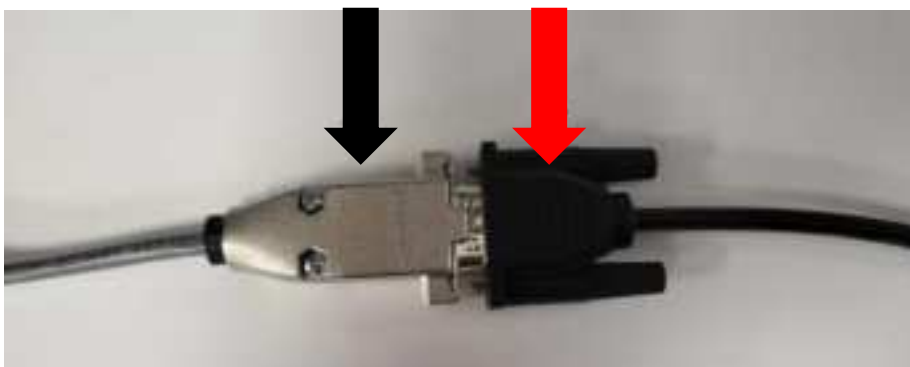

Figure 2 Concoa cable connected to USB-to-Serial cable. Black arrow indicates DB9 end of Concoa cable. Red arrow indicates serial end of USB-to-Serial cable.
10. Plug the DB9 end of the Concoa cable into the USB-to-Serial cable (shown in Figure 2).